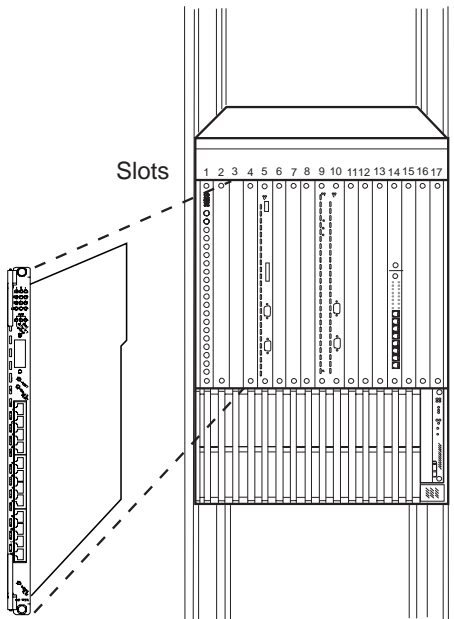
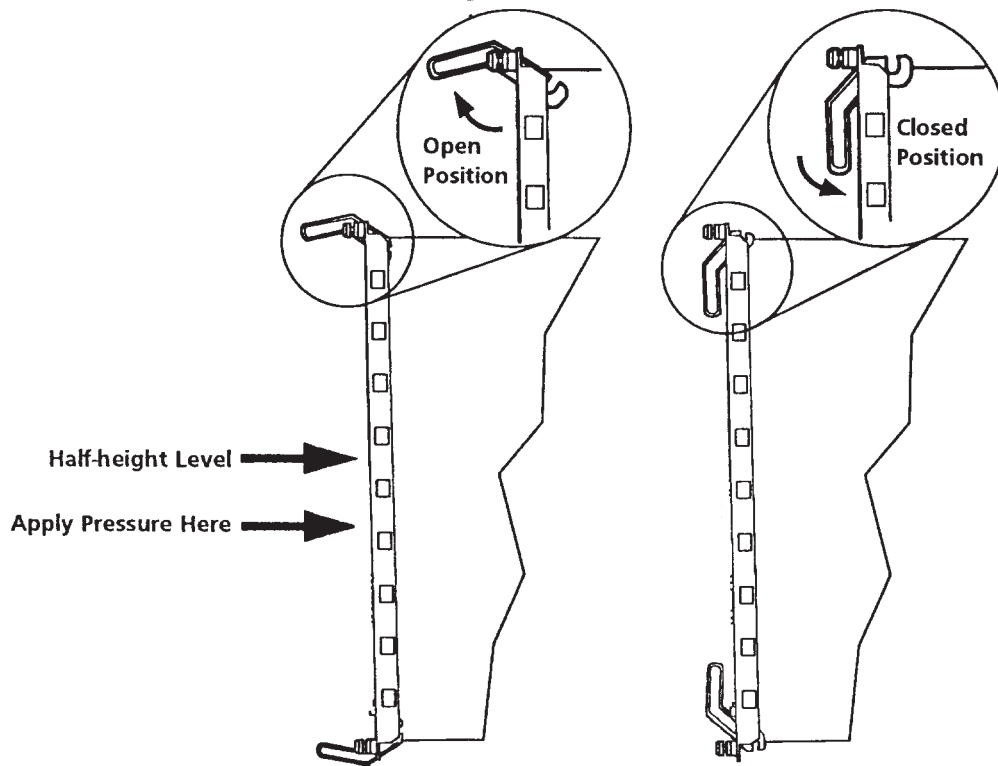

Figure 2. Installing the Module in an 8260 Hub
Figure 3. 8260 Module Ejectors
3. Insert the A12-TP25 module into one of the free slots in the hub as shown in Figure 2, matching the top and bottom board guides as you slide the module cleanly into place (by pressing evenly on the top and bottom of the faceplate). Do not attempt to push the module all the way into the hub until you have verified that the top and bottom module ejectors are OPEN (see Figure 3 on page 9.)